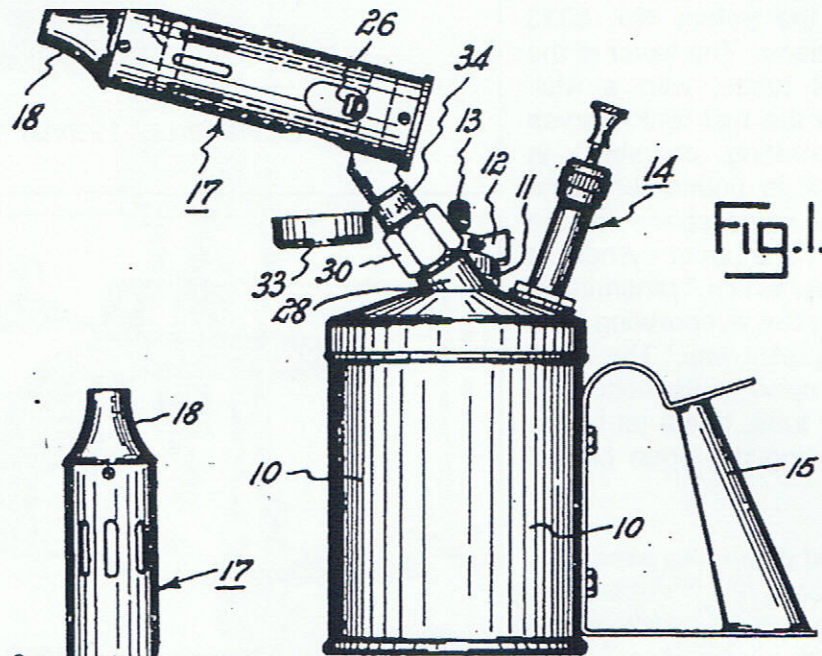

Fig. 1.
- (a) In Fig. 1, connected to the inwardly bulged bottom is a tapered rod with the upper end soldered through a hole in the top of the fuel tank, to provide a pressure release.
- (b) Also in Fig. 1, a cylindrical perforated slide is moved up or down the exterior of the burner to control air flow.